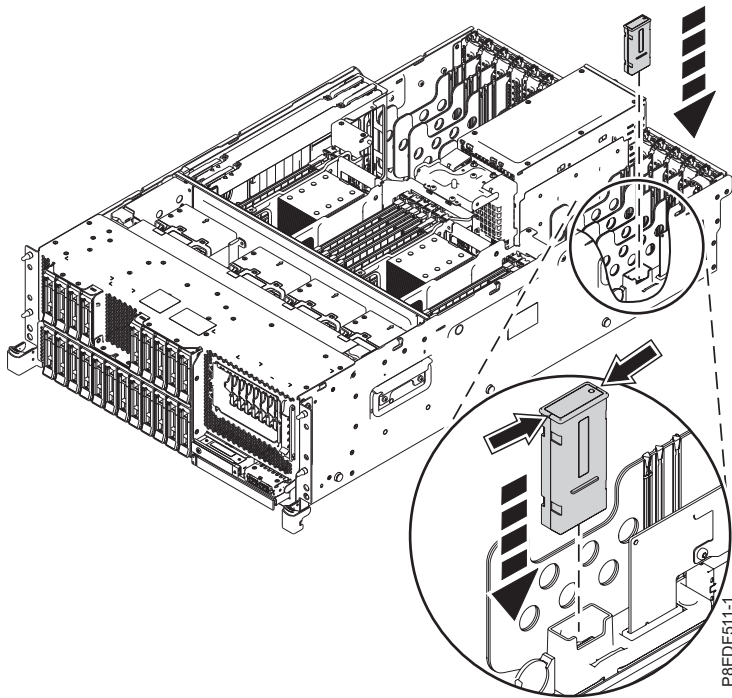

Figure 3. Replacing the VPD card
2. Replace the VPD card. Insert the VPD card into its slot in location P1-C13 on the system backplane as shown in Figure 3 on page 6. Push the VPD card into place until it is fully seated.